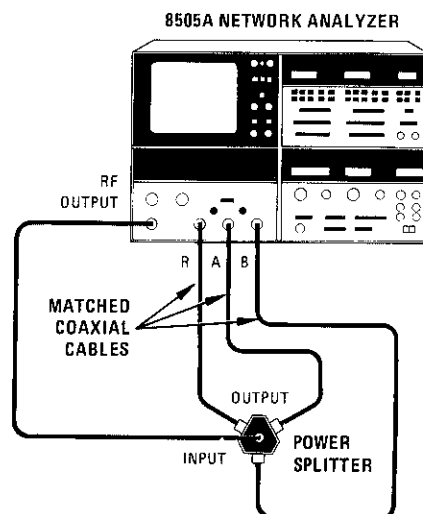

Figure A5-42. A3A11 Group Delay Test Setup
- b. Connect equipment as shown in Figure A5-42. Install A2A11 on extender board.